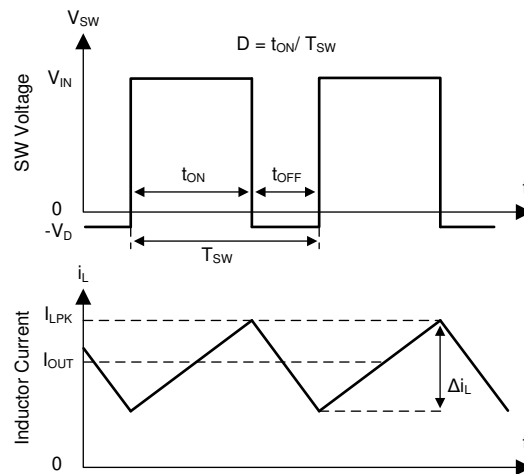

Figure 10. SW Node and Inductor Current Waveforms in Continuous Conduction Mode
The following operation description of the LM76002-Q1/LM76003-Q1 refers to the *Functional Block Diagram* and to the waveforms in Figure 10. The LM76002-Q1/LM76003-Q1 supplies a regulated output voltage by turning on the internal high side (HS) and low side (LS) NMOS switches with varying duty cycle (D). During high-side switch on-time t_{ON} , the SW pin voltage V_{SW} swings up to approximately V_{IN} , and the inductor current i_L increase with linear slope. The HS switch is off by the control logic. During the HS switch off-time, t_{OFF} , the LS switch is turned on. Inductor current discharges through the LS switch, which forces the V_{SW} to swing below ground by the voltage drop across the LS switch. The regulator loop adjusts the duty cycle to maintain a constant output voltage. The control parameter of buck converter is defined as duty cycle $D = t_{ON} / t_{SW}$. In an ideal buck converter, where losses are ignored, D is proportional to the output voltage and inversely proportional to the input voltage: $D = V_{OUT} / V_{IN}$.